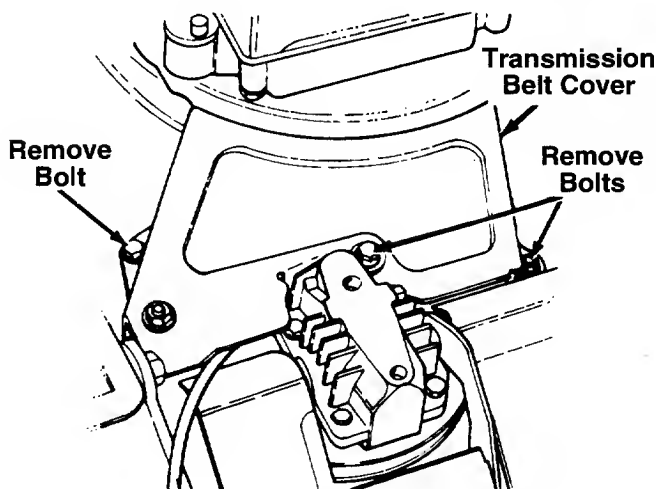

FIGURE 16.
4. Remove the transmission belt cover by removing three bolts. See figure 16.